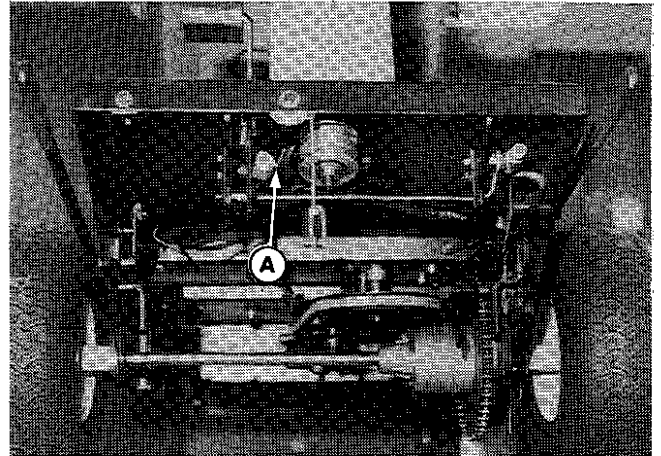

Figure 6.
- B. Screws (6)**
4. Route the 45-inch black wire (A, figure 6) up into steering column through hole in frame.